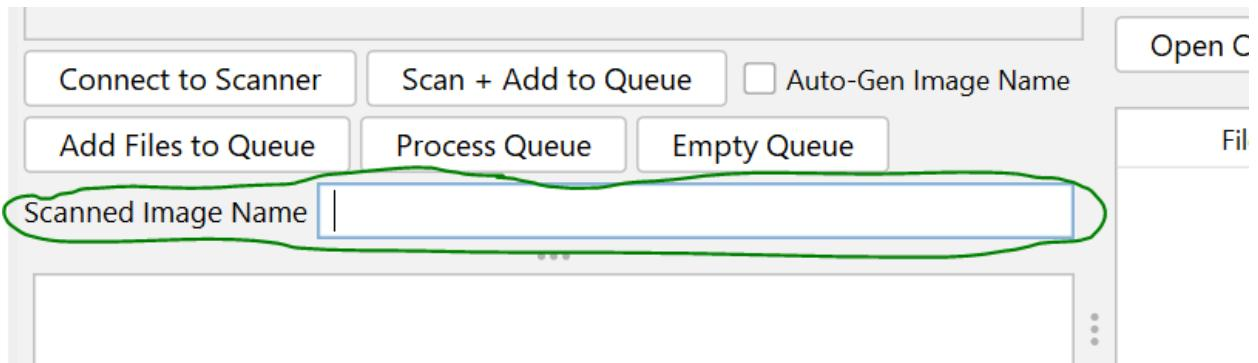

Fig 4: Flour scan software – user interface with Scanned Image Name circled.
- 4) Provide a name for the flour sample in the box provided. [See Figure 4]